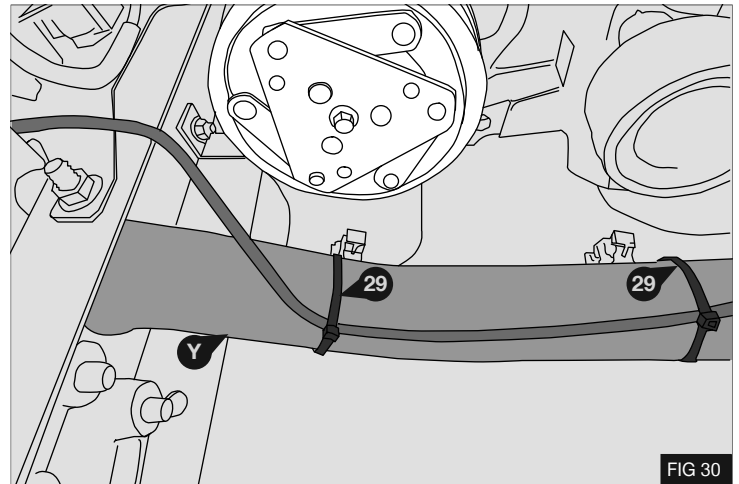

FIG 30
6. Re-position vacuum pipe (Y) and secure with cable ties (29) - Fig 30